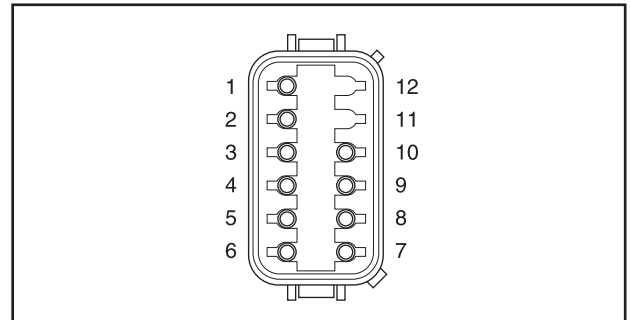

Figure 5. C2 Connector Pin Locations (Female Side)
6. Refer to Figure 5 for pin locations of Connector C2. Use a large paper clip or similar metallic object to access pins in connector C2.